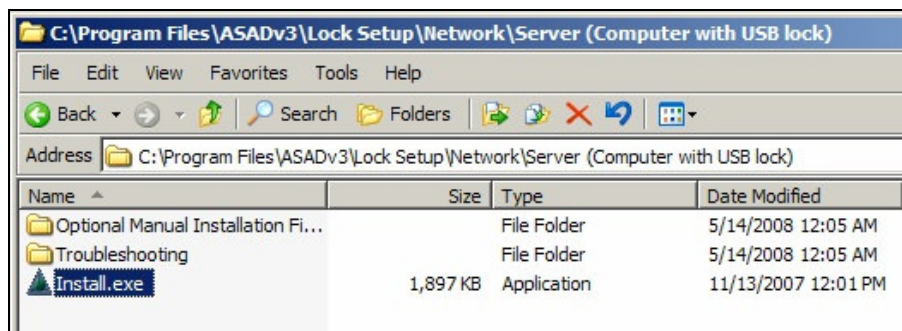

Figure C.7
- a) Run the ‘Install.exe’ program from the ‘C:\Program Files\ASADv3\Lock Setup\Network\Server...’ subdirectory. (see figure C.7)